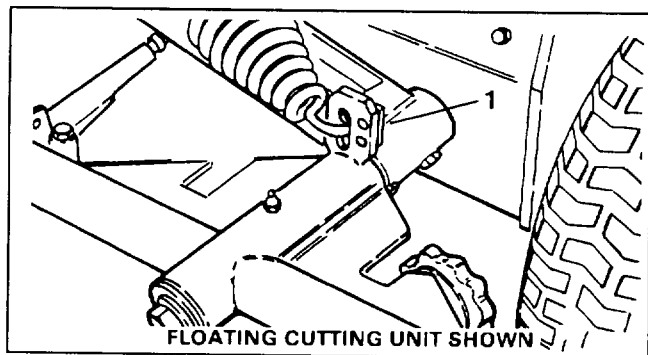

Figure 18
(Figs. 18–20)
1. Hook one end of spring into second hole (from bottom) on cutting unit lift tab (Fig. 18).